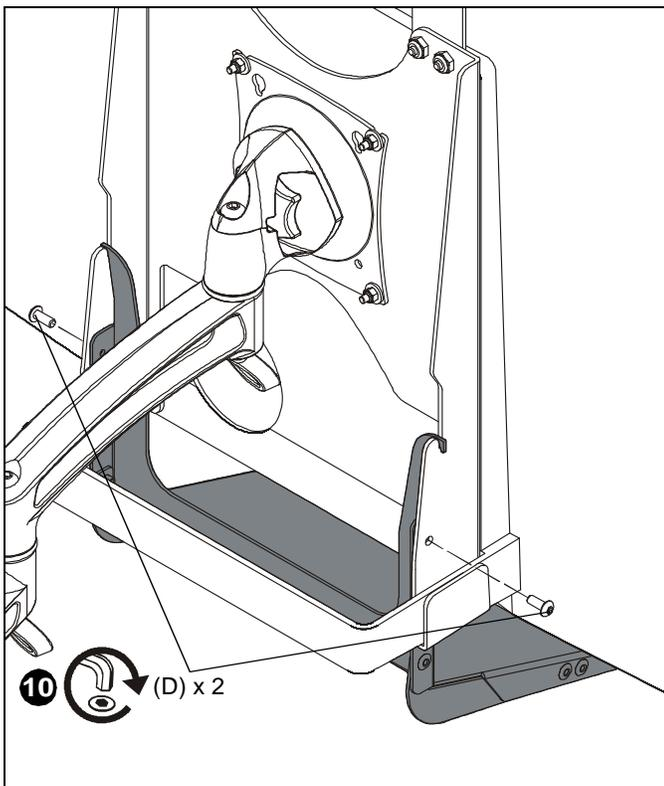

Figure 6
10. Fasten shelf assembly to interface bracket using two 10-24 x 1/2" buttonhead screws (D). (See Figure 6)